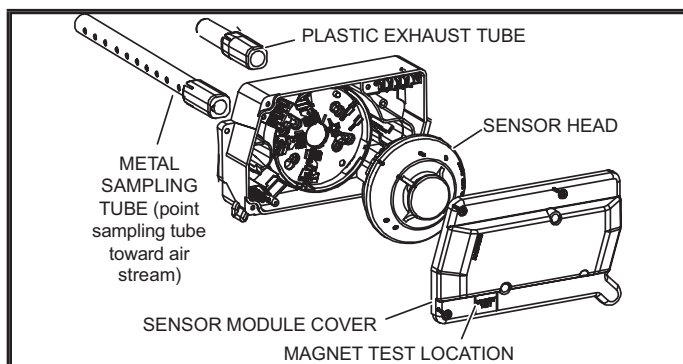

FIGURE 2 Smoke Detector
- 2 - Slide metal sampling tube and plastic exhaust tube onto back side of the sensor (see FIGURE 2).